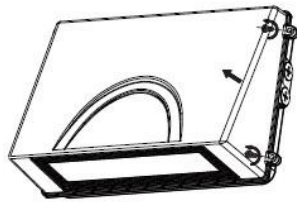

Fig1
Step 1. Remove the front cover by unscrewing the 2 screws on the right side of the fixture and lay aside. (Fig1).